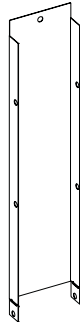

Figure 2
1. Locate the three steel middle mounting brackets under the burner cover. See **Figure 2**.